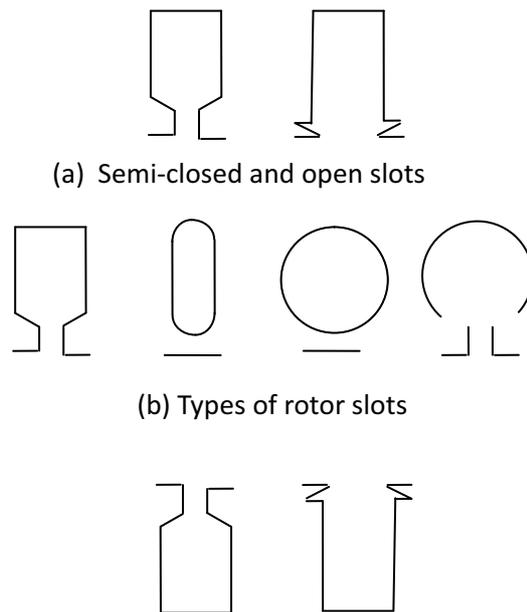

Fig.3.7 - Different shapes of slots
**3.2 DIFFERENT SHAPE OF SLOTS :** There are different shapes of slots used for electrical machines. The slots used in the stator of induction motors, may be completely open or semi-closed as shown in Fig. 3.7 (a).
The types of rotor slots used for squirrel cage induction rotor may be either closed or semi-closed types as shown in Fig. 3.7 (b).
The slots used in the armature of dc machines, may be completely open or semi-closed as shown in Fig. 3.7 (c).